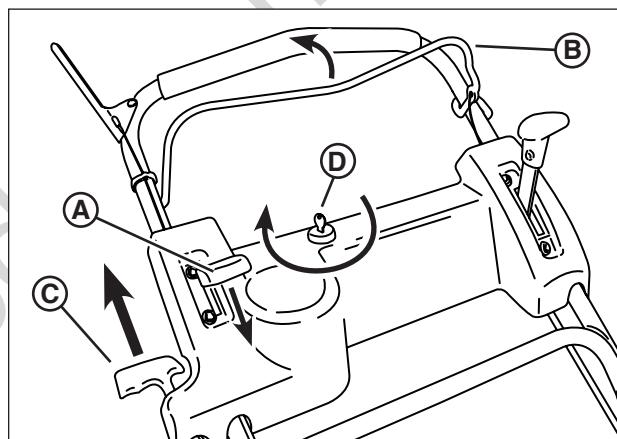

Figure 3: Starting the mower
1. Move the engine speed control (**A**, **Figure 3**, if equipped) to the fast ('Rabbit') position.